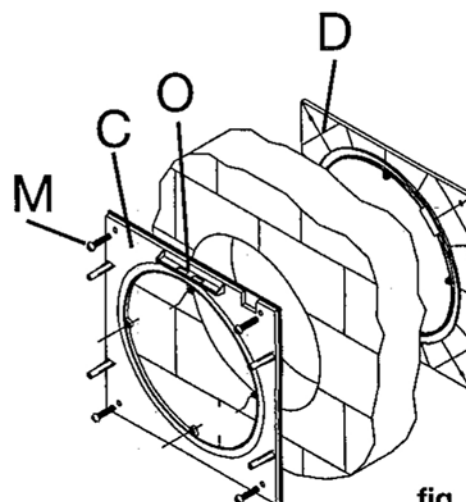

fig. 14
5. Make four holes in the wall according to the position of the holes on the inner clamp plate (C) and place the rawlplugs supplied.
6. Place the inner clamp plate (C) on the wall and fix it in place by loosening the 4 screws (M) through the holes provided in the inner clamp plate. Make sure that the inner clamp plate is placed so that the holder (O) is uppermost as it will then anchor the fan unit body (B). (FIG 14)